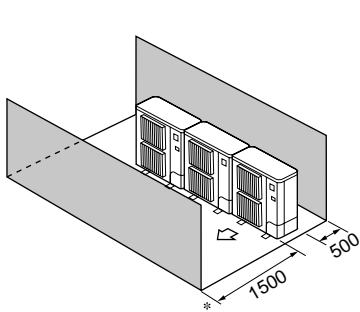

Fig. 2-13
- Obstacles at front and rear only (Fig. 2-13)